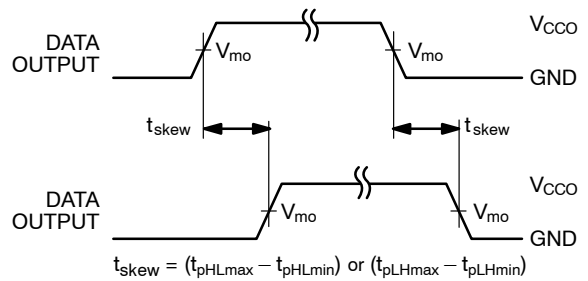

Figure 15. Output Skew Time
14. Skew is the variation of propagation delay between output signals and applies only to output signals on the same port ( $A_n$  or  $B_n$ ) and switching with the same polarity (LOW-to-HIGH or HIGH-to-LOW) (see Figure 15). Skew is not tested.